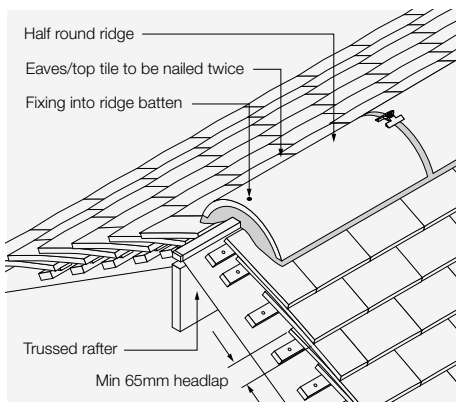

Fig. 16 – Clay bedded ridge using the mortar bedded security ridge kit
- 5 Provides mechanically fixed ridge tile in line with BS 5534 fixing guidelines (Fig. 16).